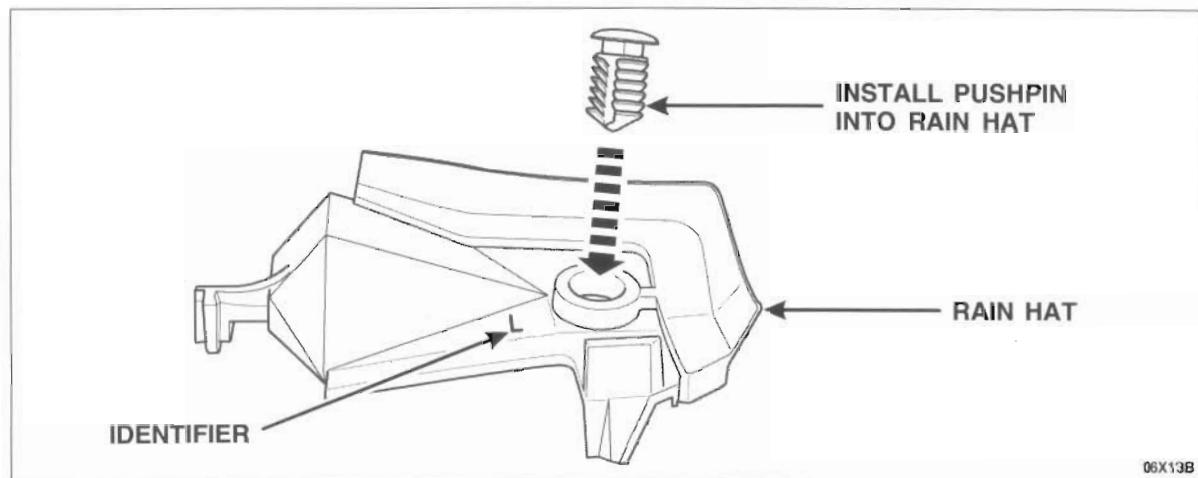

FIGURE 2
2. NOTE: The rain hats are embossed with an "L" or an "R" to identify on which side of the vehicle they are to be installed. See Figure 2.
Insert the supplied pushpin into the rain hat. See Figure 2.